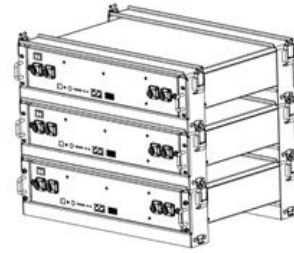

Figure3-7
- Stack the required number of battery and bracket combinations as described above, and fasten the top and bottom buckles. Shown as Figure3-7.